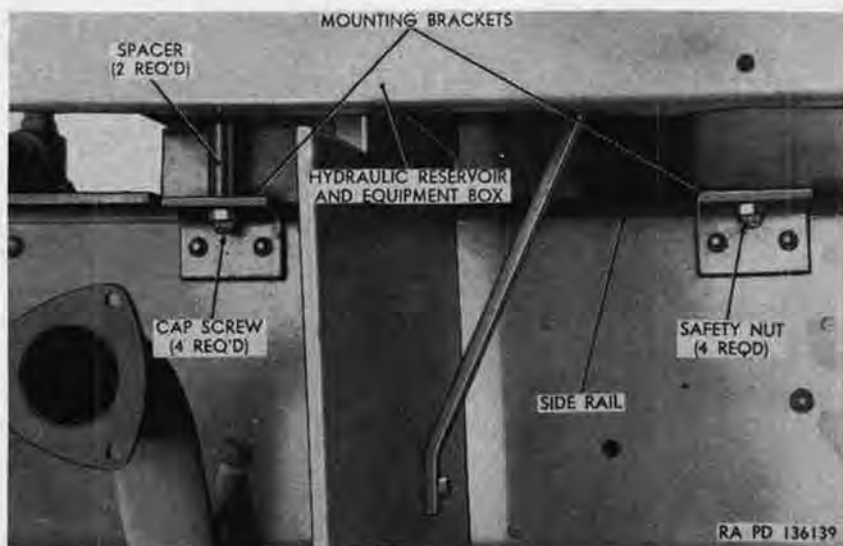

Figure 308. Hydraulic reservoir and equipment box mounting at right side rail.
- (3) Remove four safety nuts (fig. 308), two on each side, securing hydraulic reservoir and equipment box to mounting brackets attached to left and right frame side rails.
- (3) Install four safety nuts (fig. 308), two on each side, on cap screws. Tighten nuts.